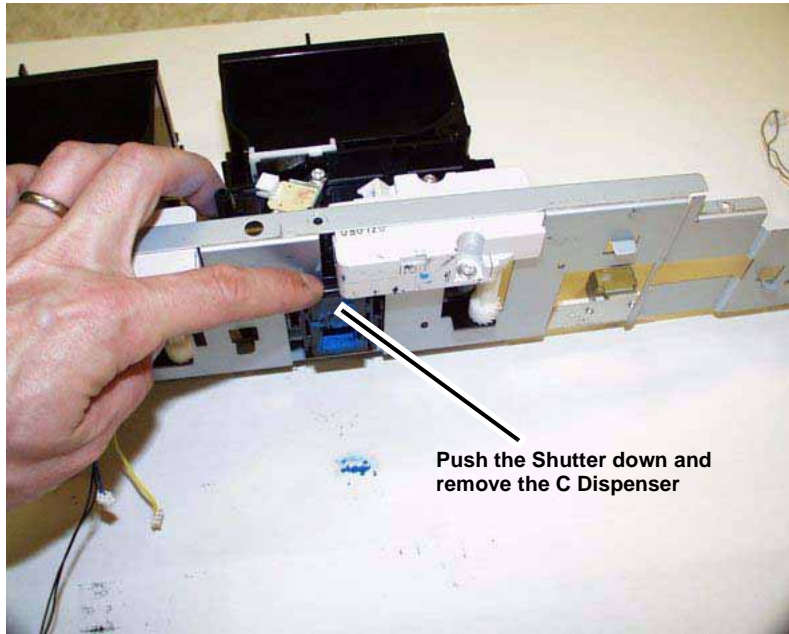

Figure 3 Removing the C Dispenser
5. Remove the C Dispenser (Figure 3).